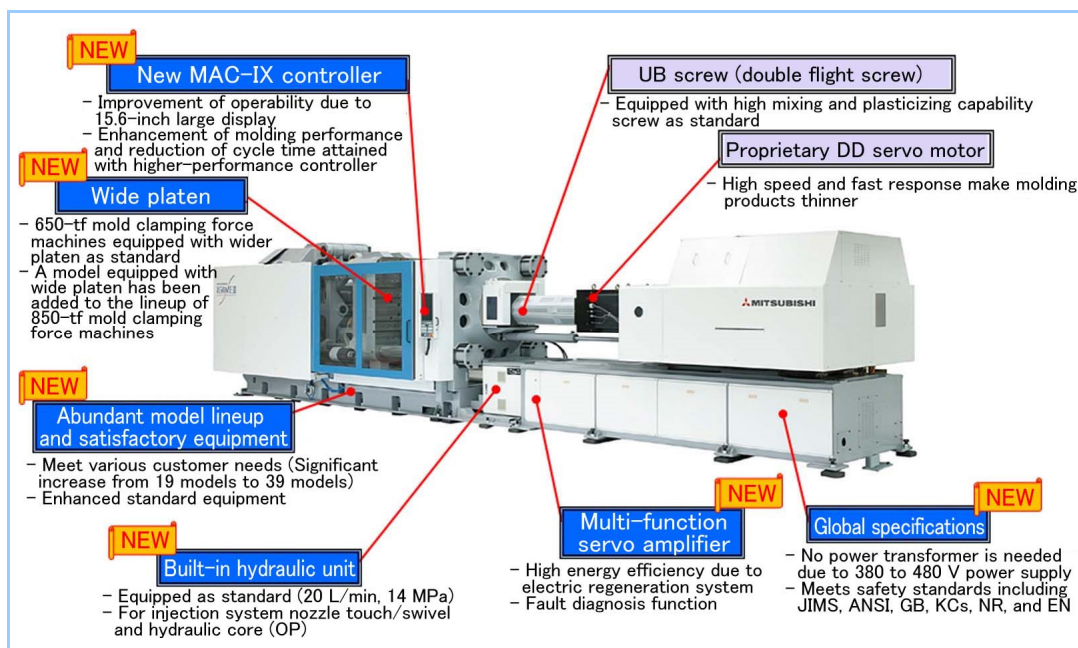

Figure 1 Features of MEIII series
As shown in **Figure 1**, the MEIII series machines are a new mid-sized electric injection molding machines that enable high-precision and real-time integrated control of the molding process using (1) a wide platen, (2) a fast-response injection DD (direct drive) servo motor, (3) a UB (double flight) screw, (4) the new MAC-IX controller and other advanced technologies including a built-in hydraulic unit for the hydraulic core and gate valve, and an electric regeneration servo amplifier.
(1) Wide platen